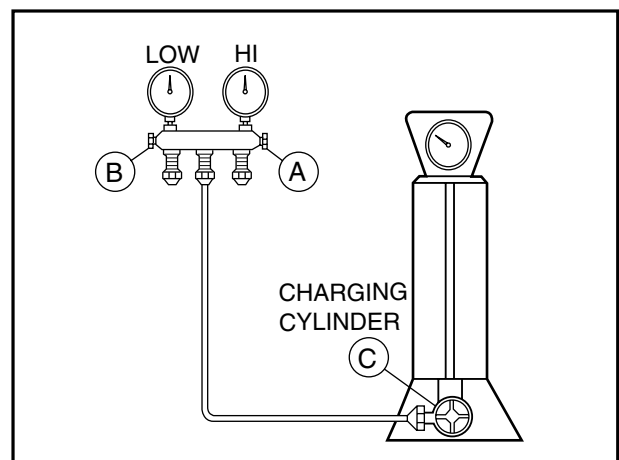

Figure 18B-Charging
- 2) Connect the charging cylinder as shown in figure 18B.
- 4) Remove the hose from the vacuum pump and place it on the charging cylinder. See figure 18B.